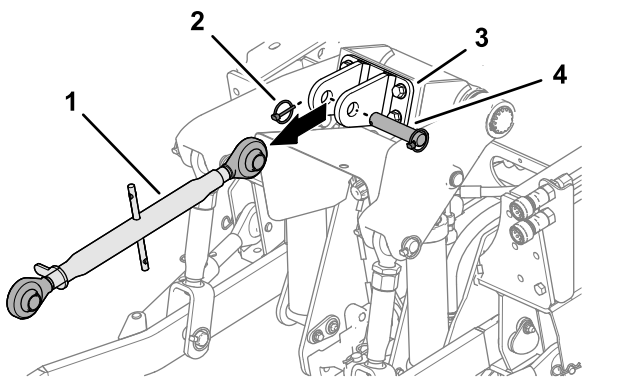

Figure 19
3. If installed, remove the lynch pin, clevis pin, and upper 3-point link from the upper-link bracket (Figure 19).